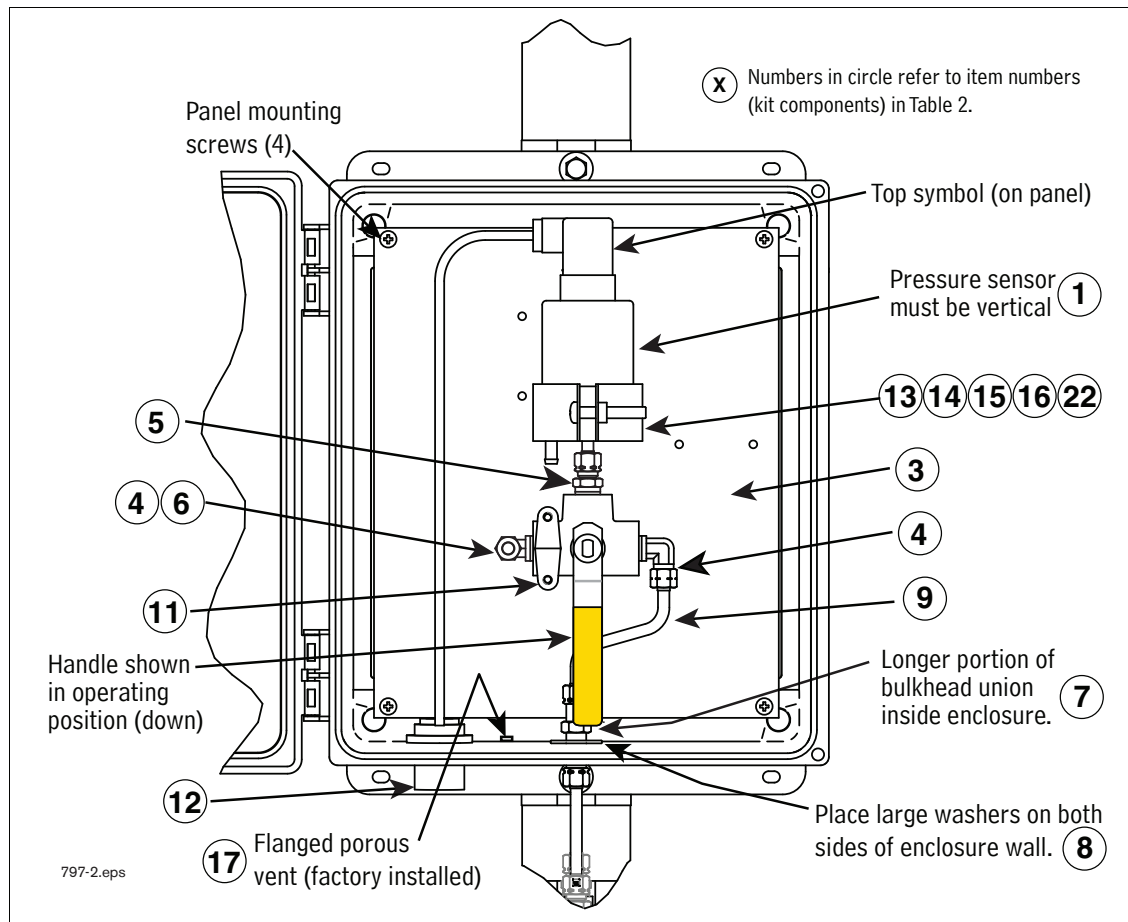

Figure 11. Mounting Pressure Sensor Assembly onto Composite Panel
4. Install the pressure sensor (item 1 in Table 2) vertically onto the center of the composite panel (item 3 in Table 2) using a 2-inch conduit clamp, rubber shim, and necessary bolts, nuts, and washers included in the kit. Be sure the top symbol on the panel is facing upwards (see Figure 11). Wrap the rubber shim (item 22 in Table 2) around the sensor before inserting it into the clamp. Also make sure the sensor cable outlet is facing up and the pressure sensing port tube in the base of the sensor is facing down. Locate the pressure sensor in the clamp, but leave the conduit clamp screw somewhat loose for later sensor height adjustment.
5. Install two 169CA-4-4 male elbows (item 4 in Table 2) into each end of the 3-way calibration valve (item 11 in Table 2) as shown (see Figure 11).
7. Screw the 59CA-4 plug (item 6 in Table 2) onto the left port's male elbow (see Figure 11).
9. Install the composite panel into the enclosure (item 2 in Table 2) such that the sensor cable outlet is facing up and the pressure sensing port tube in the base of the sensor is facing down. The top symbol on the panel should be facing upward. Use the four short screws included in the enclosure hardware bag.
10. Make sure that the white flanged porous vent (factory installed - item 17 in Table 2) is still securely installed into the hole in the bottom of the enclosure (see Figure 11).
11. Insert the S-bend 1/4" OD copper tube (item 9 in Table 2) into the right-side male elbow of the 3-way calibration valve, but do not fully tighten the compression nut (see Figure 11).
12. Locate the 62CABH-4 bulkhead union (item 7 in Table 2) and remove the compression nut and the adjustable nut then place a large washer (item 8 in Table 2) against the fixed, integral body nut. Slide the compression nut that was removed onto the bottom portion of the S-bend tube.
15. Fully tighten the compression nuts to connect the S-bend tube to the union and to the male elbow. Tighten the sensor conduit clamp screw to secure the sensor in its final vertical position (see Figure 11).